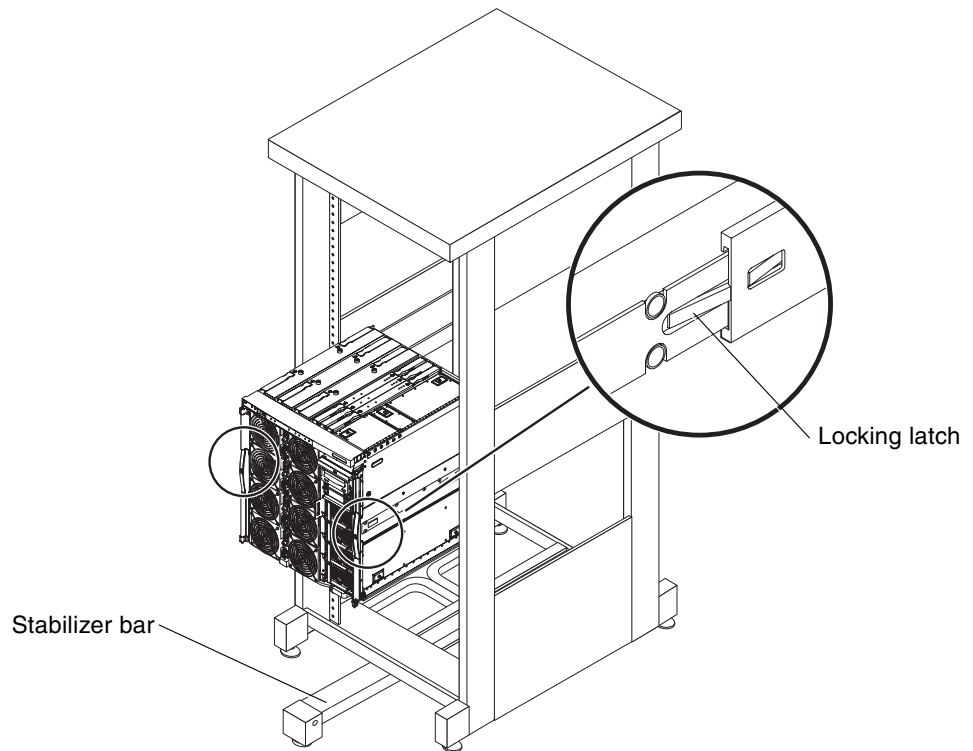

FIGURE 3-2 Sliding the System Out of the System Cabinet
3. From the front, carefully pull the system forward out of the system cabinet until the locking latches click (FIGURE 3-2).
2. Make sure that the system cabinet stabilizer bar is extended and locked (FIGURE 3-2).
6. Retract the system cabinet stabilization bar (FIGURE 3-2).